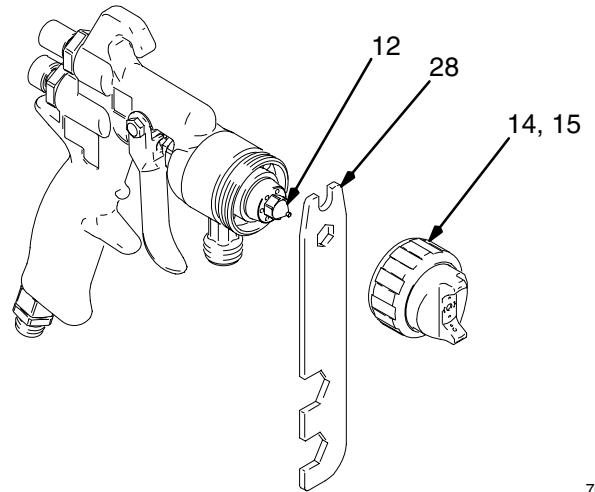

Fig. 26
2. Remove the air cap retaining ring (15) and air cap (14). See Fig. 26.
3. Trigger the gun while you remove the fluid nozzle (12) with the gun tool (28).
2. Remove the air cap retaining ring (15) and air cap (14). See Fig. 26, page 19.